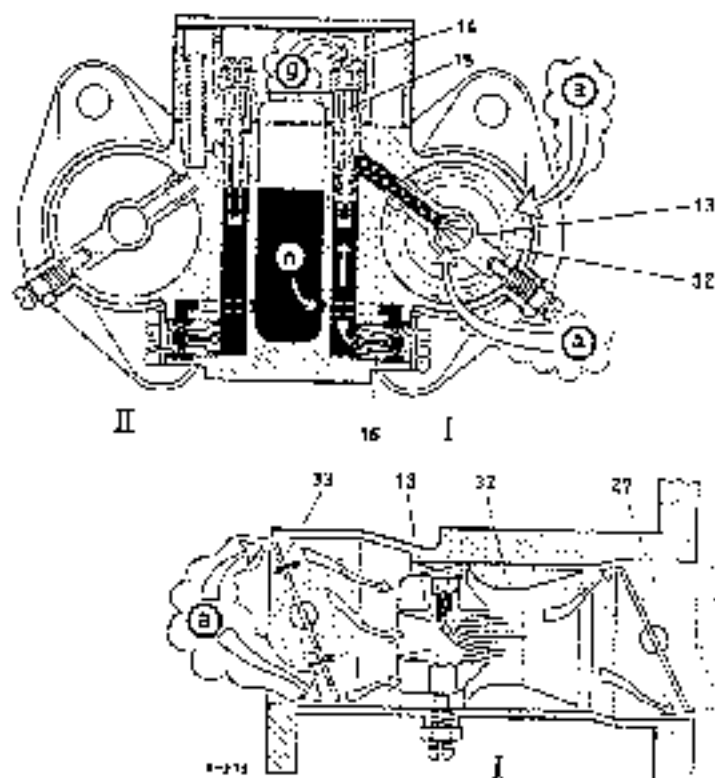

Fig. 07-0/38
d) When the starter mechanism is inoperative, there must be a clearance of approx. 0.4 mm between the adjusting screw (29) on the throttle valve lever and the relay lever (41) when the carburetor linkage is in the idle position. The tension spring must press the relay lever against the cam plate of the choke valve lever (see Fig. 07-0/35).
When the engine is being started, the closed choke valve (33) produces an effective vacuum in the diffuser (13) of stage I, so that sufficient fuel is drawn from the main supply system to provide a mixture rich enough to start the engine cold. When the engine has started, the pressure flow regulates the opening of the choke valve (33) against the pressure of the coil spring, with the result that the combustion air necessary for the start mixture can enter (Fig. 07-0/38).